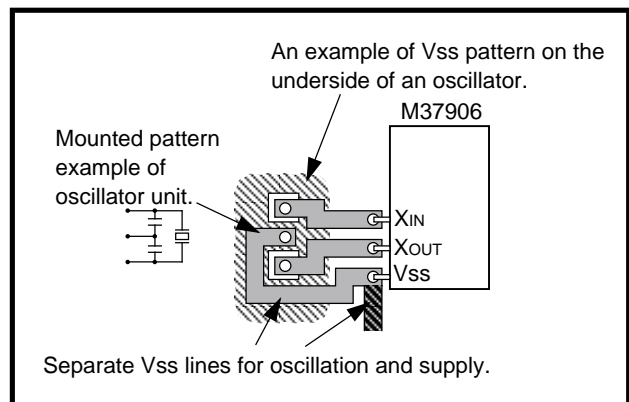

Fig. 10 Vss pattern underneath mounted oscillator
(2) Wiring for clock input/output pins
- Separate the Vss pattern for oscillation from all other Vss patterns. (See Figure 10.)